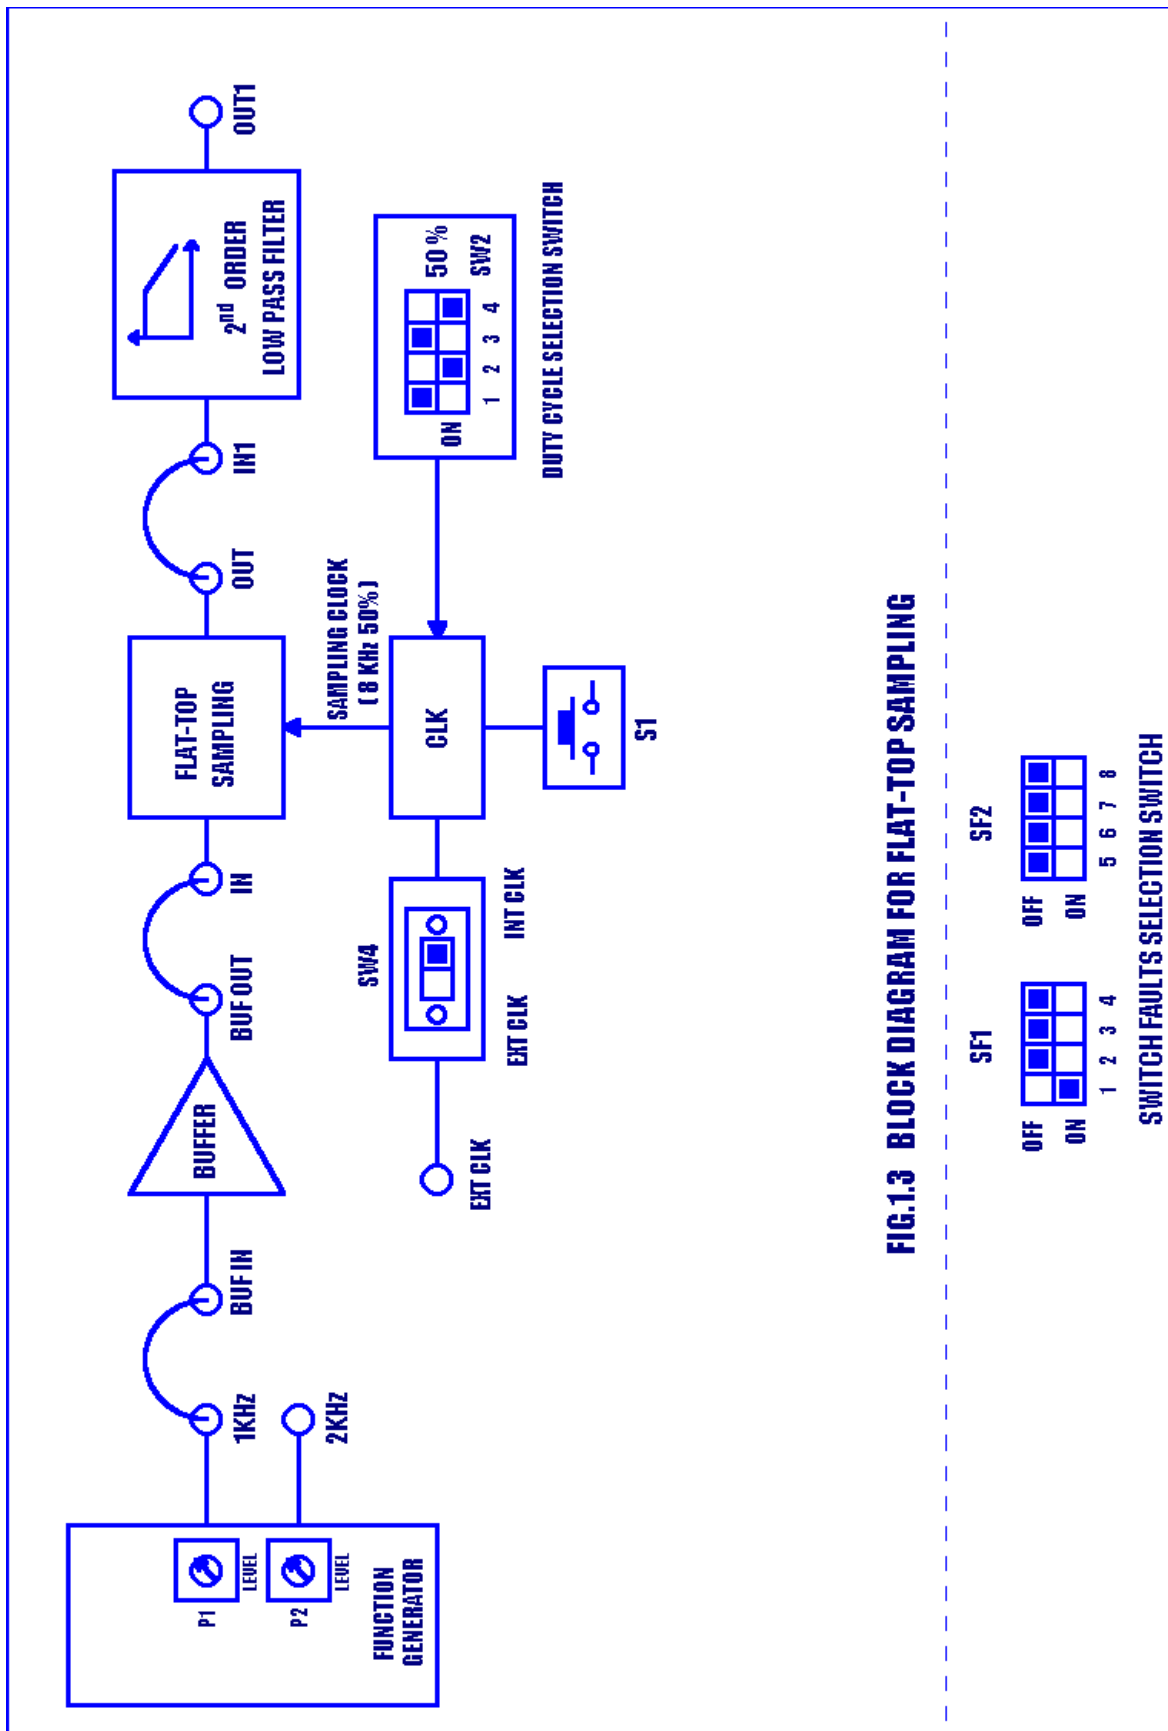

FIG.1.3 BLOCK DIAGRAM FOR FLAT-TOP SAMPLING
1. Refer to the Block Diagram (Fig. 1.3) & Carry out the following connections and switch settings.